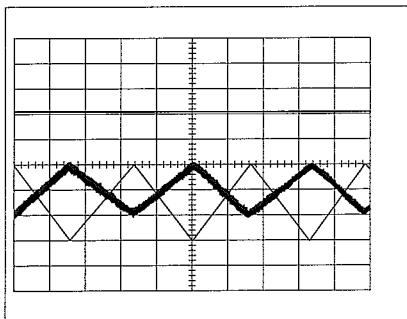

Figure 3-10 Both R401 & R400 out of adjustment
8. Three traces should now appear on the scope display as shown in figure 3-10; 1) a straight, horizontal line in the upper half of the display, 2) a clean triangle wave in the lower half of the display, and 3) a "noisy" signal in the lower half of the display that may appear as either a straight or triangular line. The following adjustments flatten this last signal and center it in the clean triangular signal.